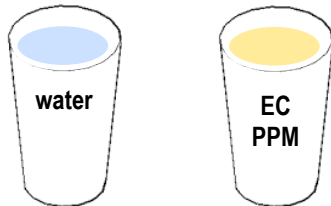

Fig. 1
1. Remove the lower grow drawer to access the reservoir (Fig.1)